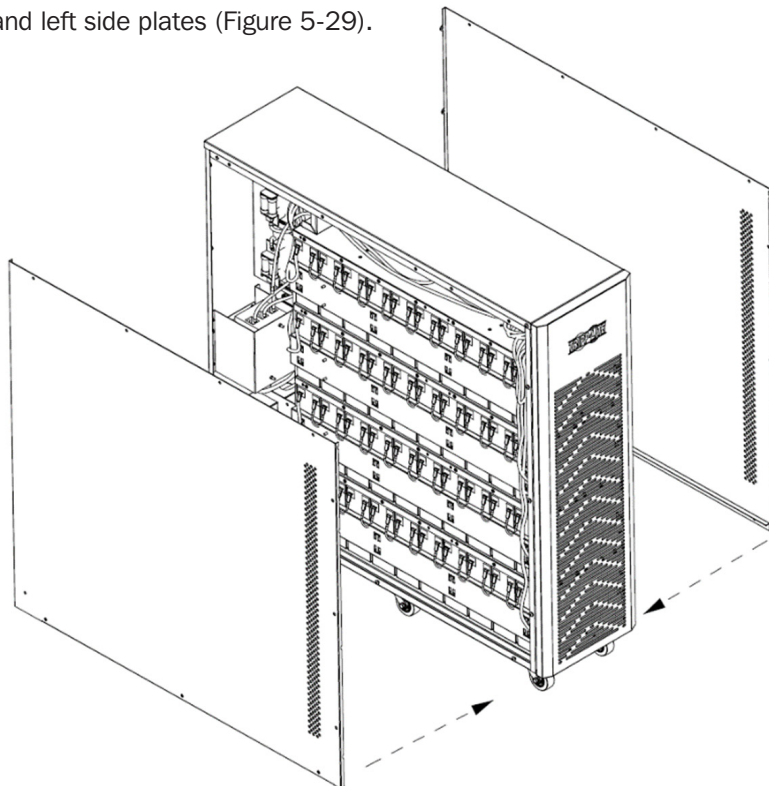

Figure 5-29
41. Reinstall the right side and left side plates (Figure 5-29).